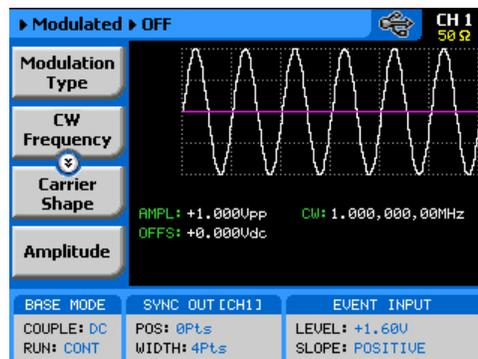

Figure 3-34, Modulation OFF Parameters
The Modulation Off is a special instance of the modulation function, where the output is not modulated, but generates carrier waveform (CW) frequency only. CW can be sine, triangle, or square waveforms. When placed in Modulation Off, the CW is generated from the main outputs continuously. The CW parameter does not change when you switch from one modulation function to another. Figure 3-34 shows the Modulation Off menus.